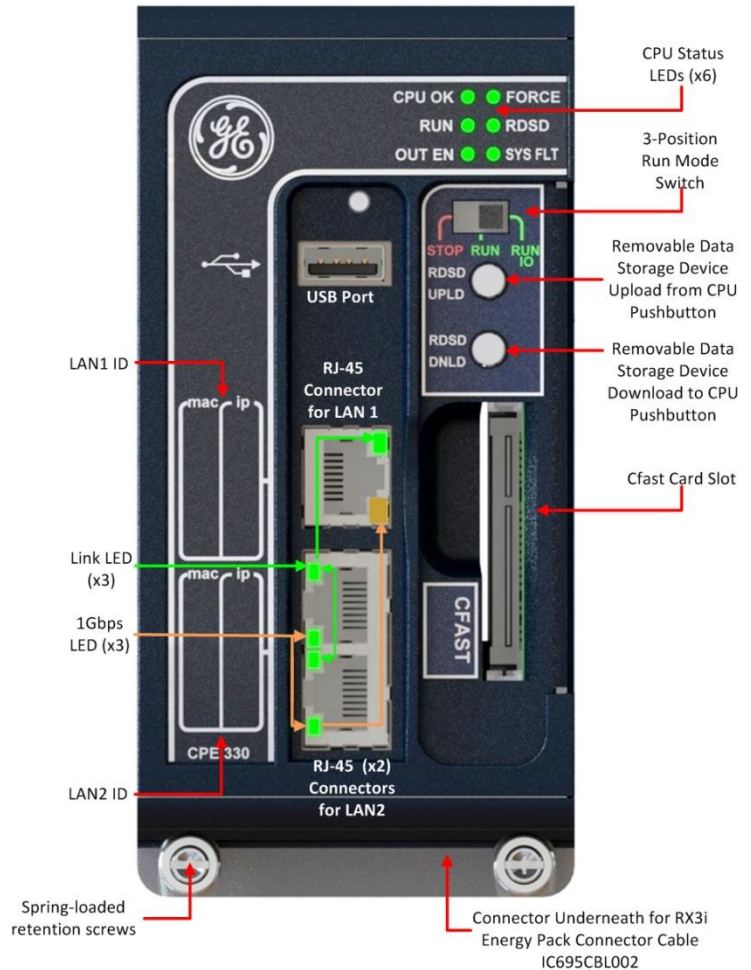

Figure 1: CPE330 Features at a Glance
- Two independent 10/100/1000 Ethernet LANs. LAN1 attaches via the dedicated (upper) RJ-45 connector shown in Figure 1. LAN2 attaches via the lower pair of internally-switched RJ-45 connectors.